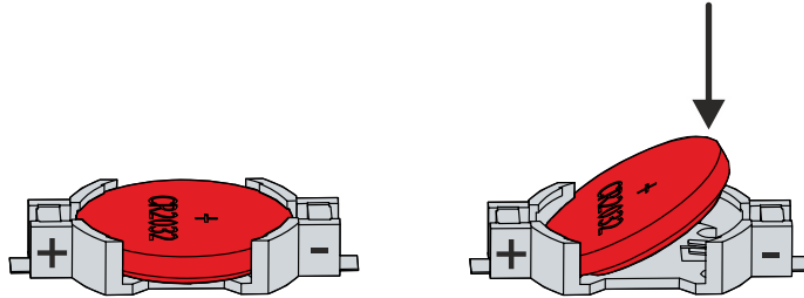

Figure 26. PLC Battery Change
3. Lift the battery side out of the holder. The battery is now in an inclined position as shown in **Figure 26**.
5. Insert the new battery with the correct polarity back into the inclined position on the positive pole of the battery holder. The correct polarity is shown in **Figure 26**.
6. Push the protruding side of the battery into the battery holder as shown in **Figure 26**.